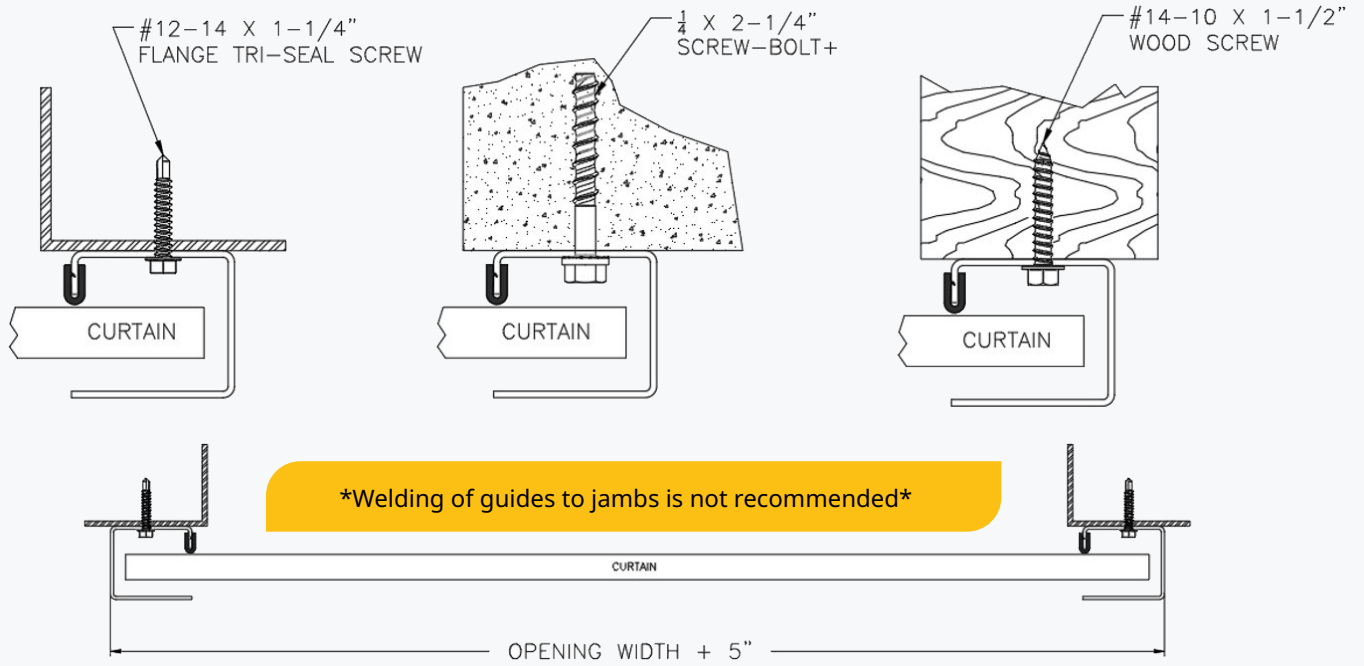

figure 16
- ◆ The guides should be positioned centered on the opening spaced curtain width +1/2" apart, measured from back of guide to back of guide. Both guides must be plumb and level. See Figure 16.